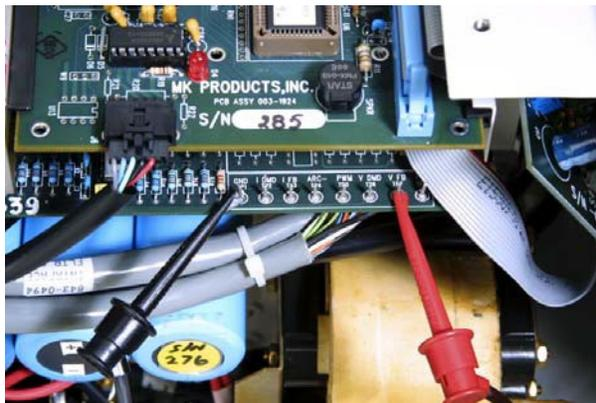

Fig. 3 – TP7 Voltage adjustment
- 3.1.4 Leaving the **Meter GND(-)** lead on **TP1**, move the **Meter POS(+)** to **TP7**. (Figure 3)